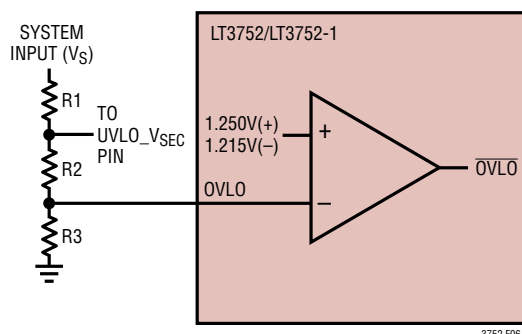

Figure 6. Programming Overvoltage Lockout (OVLO)
The LT3752/LT3752-1 have an accurate 1.25V overvoltage shutdown threshold at the OVLO pin. This threshold can be used in conjunction with an external resistor divider to define the rising overvoltage lockout threshold (OVLO(+)) for the converter's system input voltage (VS) (Figure 6). When OVLO(+) is reached, the part stops switching immediately and a hard stop discharges the SS1 and SS2 pins. The falling threshold OVLO(-) is fixed internally at 1.215V and allows the part to restart in soft-start mode. A single resistor divider can be used from system input supply (VS) to define both the undervoltage and overvoltage thresholds for the system. Minimum value for R3 is 1k. If OVLO is unused, place a 10k resistor from OVLO pin to ground.